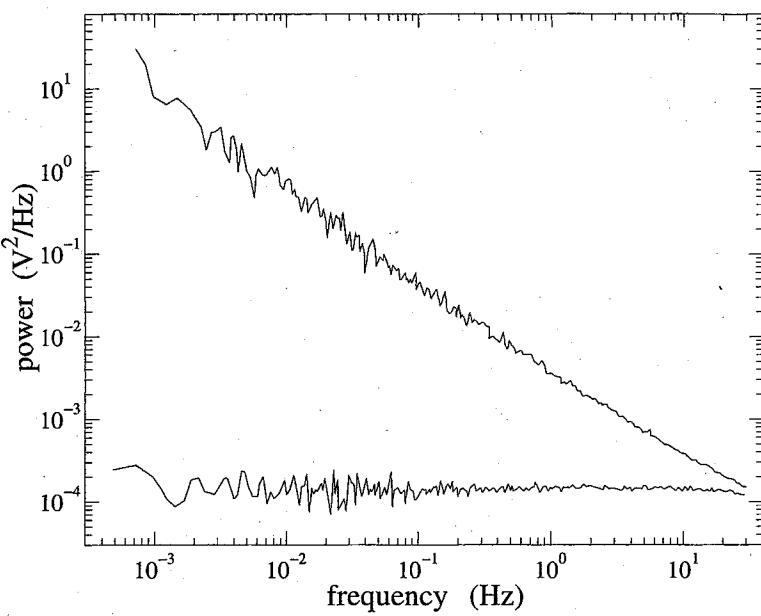

fig 1: Noise in a 50Ω resistor with and without a current.
- Figure 1 shows the Johnson and $1/f$ noise for a carbon resistor.